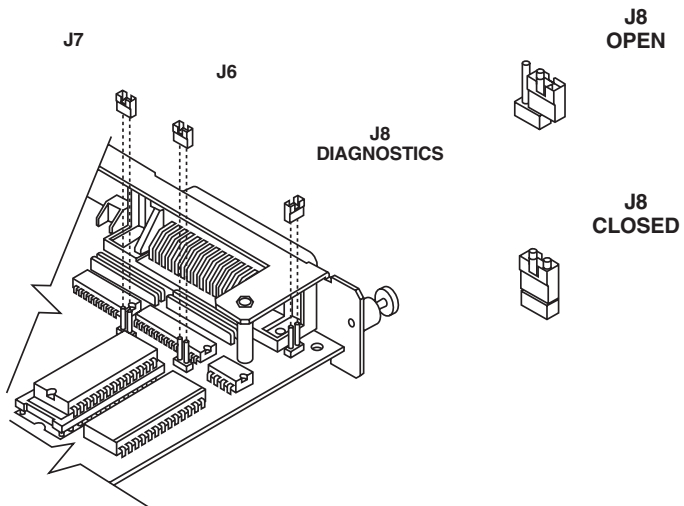

Figure 8-1. The Card's jumpers.
4. Locate the plastic jumper on the Card's circuit board, near the parallel port labeled "Parallel In From PC/LAN" (see Figure 8-1).
10. To disable the diagnostics mode, repeat Steps 1 through 3; then remove the plastic jumper from the J8 pins and put it back on its original pin, or back on only one of the J8 pins (shown as “J8 OPEN” in Figure 8-1); then reinstall the Card, reconnect all cables, and turn the printer back ON. (Make sure the jumper only covers one of the J8 pins; otherwise the Card will not operate properly, and can cause unwanted disturbances on the twinax line or even damage the host.)